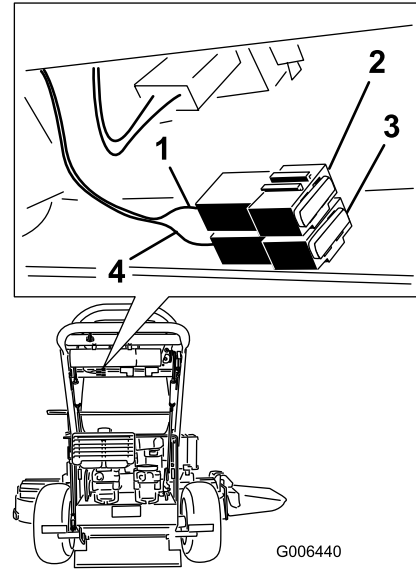

Figure 29
2. Pull out on the fuse to remove or replace it (Figure 29).